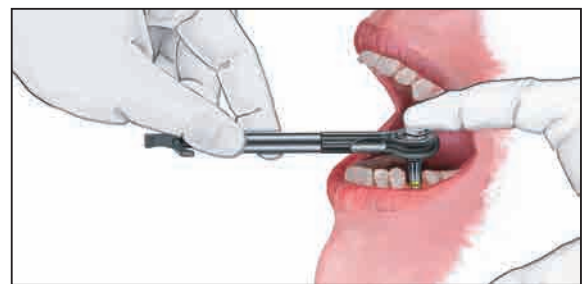

Figure 5
**Clinical Tip:** A thumb or forefinger should be placed on top of the Ratchet Wrench with light downward pressure applied (Figure 5). This helps ensure continued full engagement of the mount and prevents implant wobble during insertion and assists in keeping the orientation in the proper plane.